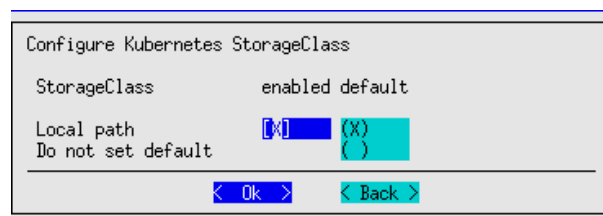

Figure 5.2: Setting the storage class
- In the screen asking to configure the Kubernetes StorageClass, a local path storage class should be enabled, with the default NFS storage enabled (figure 5.2):